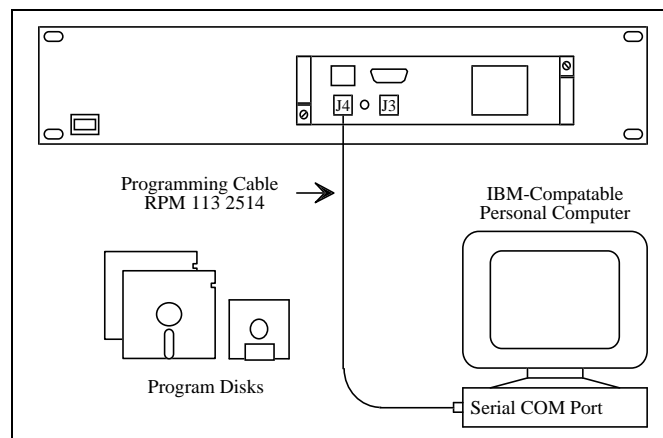

Figure 5 - SIM Download Programming Setup
- Connect the supplied programming cable (Ericsson # RPM 113 2514) from J4 on the front of the SIM to the serial COM port of the PC (or terminal), as shown in Figure 5.